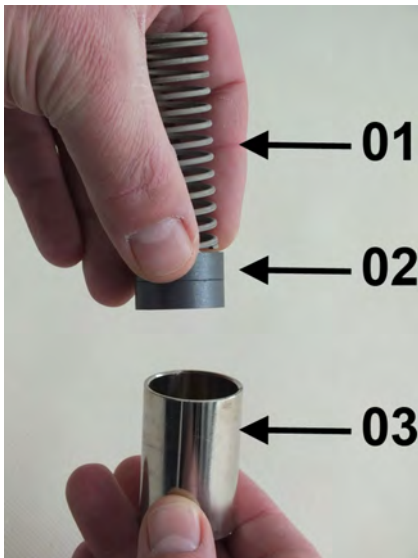

Fig. 44: inner parts
4. ➔ Insert the spring (Fig. 44/01) and magnets (Fig. 44/02) into the float (Fig. 44/03), ensuring correct polarity (north pole toward device outlet).